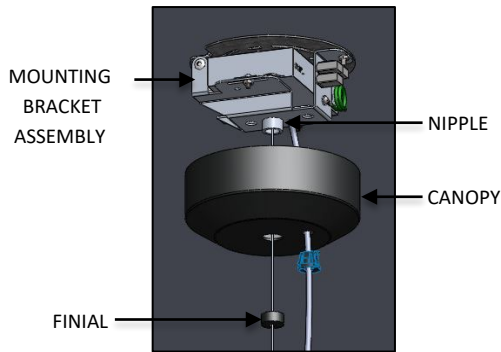

FIG. 22 – FINIAL INSTALLATION
11. Raise CANOPY and secure to ceiling by threading the FINIAL to the NIPPLE (available in MOUNTING BRACKET ASSEMBLY) as shown below in FIG. 22.